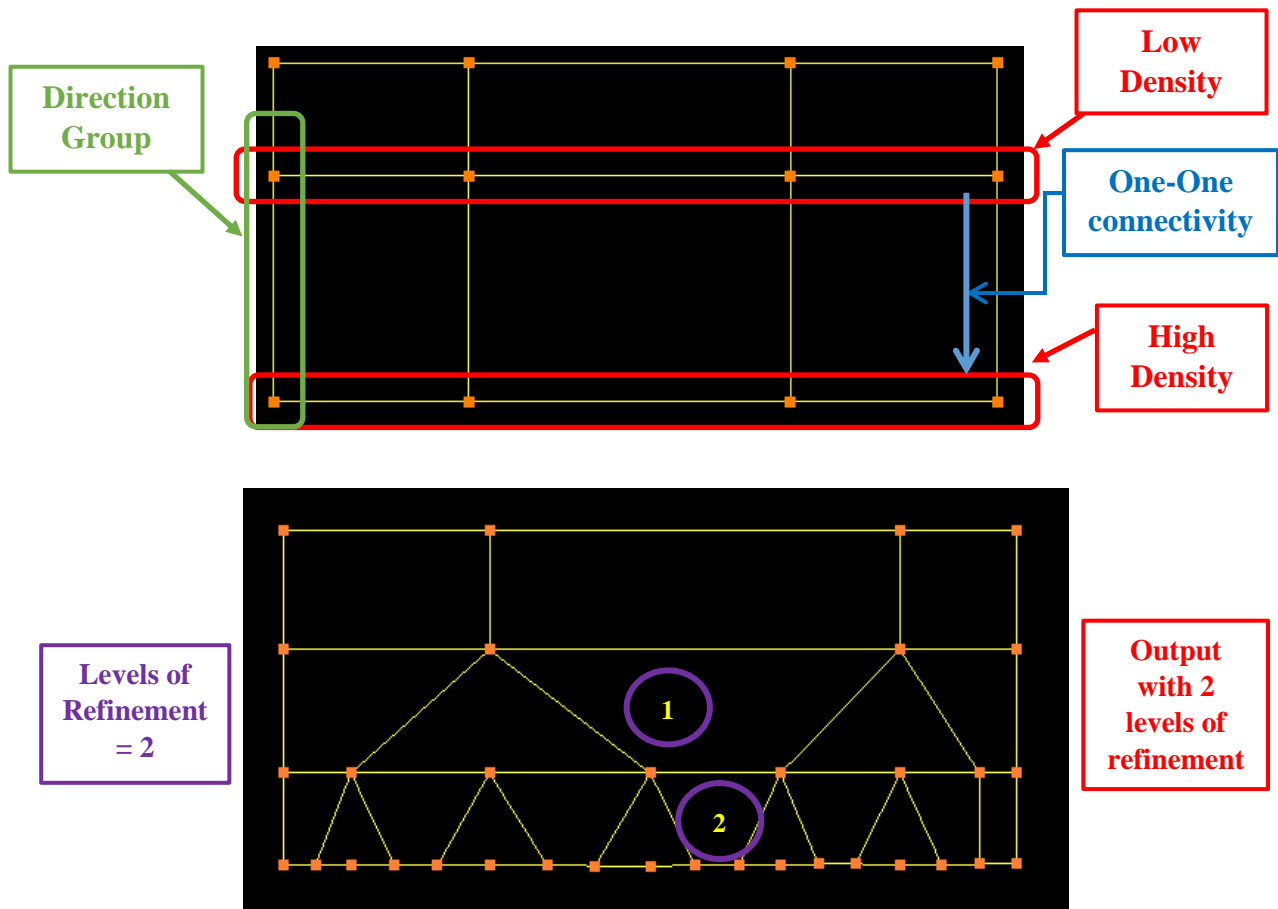

Figure 4.119: Nesting structure – Input & Output
Forward nest can be achieved only on a complete topology. You need to provide **high density group** i.e. where the density should be more, **low density group** i.e. where the density should be retained as original, **directional group** which guides the nesting tool along which direction it has to be nested, mostly it's along the wrap direction and finally the **number of refinements** which decides the number of layers of nesting. Figure 4.119 shows how the nesting is done on a topology locally. You need to provide the group number in which each group has been grouped into the respective fields. As you can see, for each layer three corners are substituted for each corner on the previous layer.
1. There should be one-to-one connectivity between Low Density Group and High Density Group as shown in Figure 4.119.
checkbox of **extrude spherically** make the reverse nest to account the corners at the intersection of two surfaces. Figure 4.119 shows how the forward nest works, whereas reverse nest works in the opposite direction and in 2 directions similar to area nest.